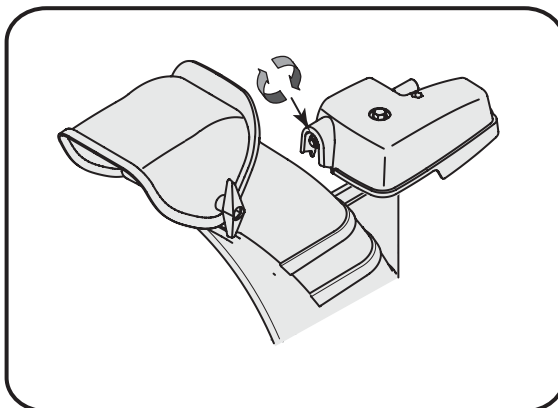

Figure 5-9
- While preventing the chute control rod from turning tighten the nut on the chute gearbox assembly. See Figure 5-9.